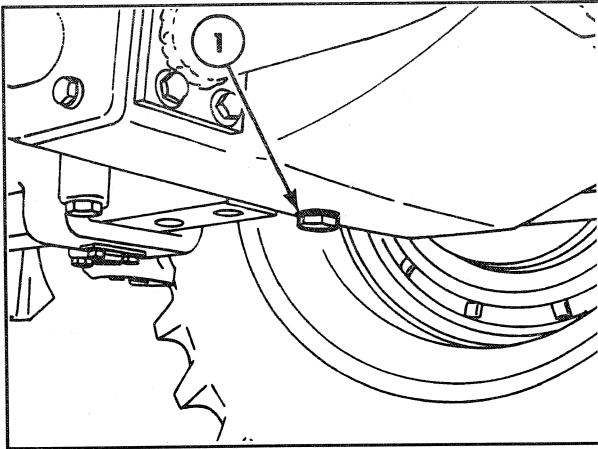
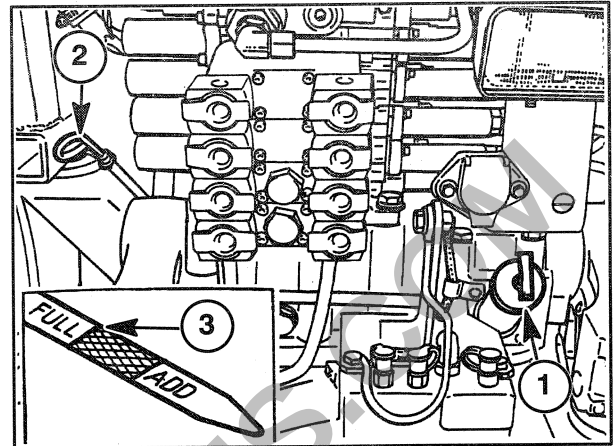

Figure 3-77
Figure 3-78
OPERATION 49**CHANGE TRANSMISSION/REAR AXLE/ HYDRAULIC OIL****Figure 3-77 and Figure 3-78**
1. Remove the drain plug, 1, and catch the oil in a suitable container. Dispose of oil properly. See Figure 3-77.
3. Remove the filler cap, 1, and refill with new oil. See Figure 3-78.